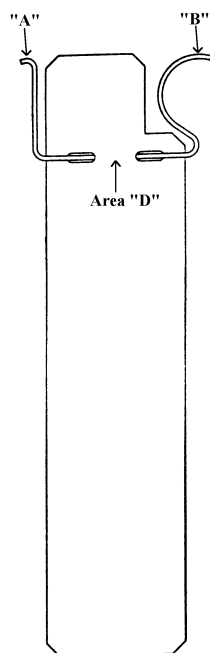
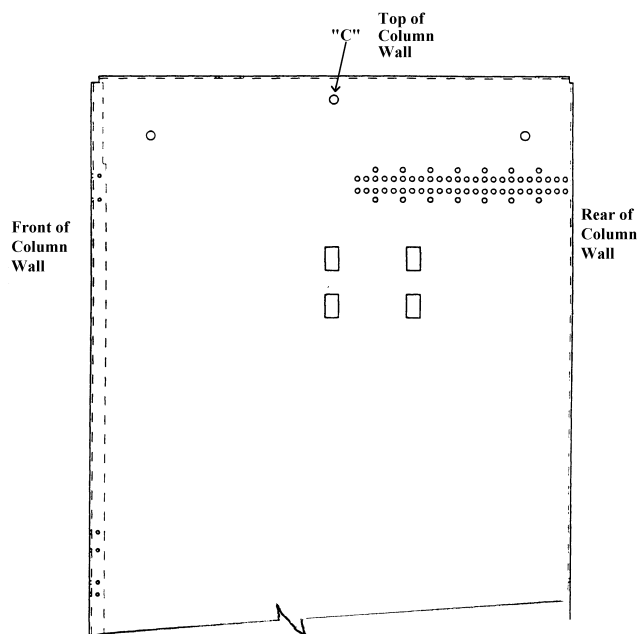

Figure 1
Figure 2
- A) Place Bottle Divider Assembly in position with area "D" (see figure 1) towards the front as shown.
- B) Spring clip end "A" (see figure 1) goes in the center hole "C" at the top of the narrow column wall on the left (see figure 2).
- C) Spring clip end "B" (see figure 1) goes in the center hole at the top of the narrow column wall on the right (see figure 2).
1. Unhook spring clip ends "A" and "B" (see figure 1) of Bottle Divider Assembly and lay bottle divider on top of the front bottles.
- B) Spring clip end "A" (see figure 1) goes in the center hole at the top of the narrow column wall on the left (see figure 2).